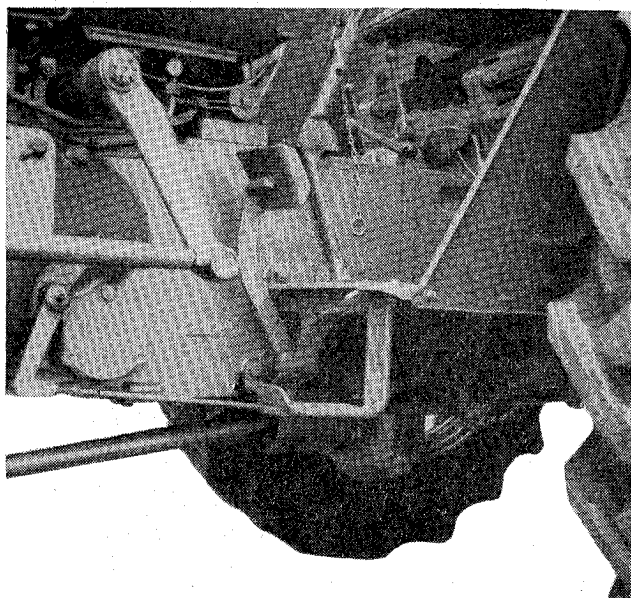

Fig. 53
The front axle drive is controlled from the driver's seat by means of an engaging lever (Fig. 53) placed on the left-hand side of the gearbox. When moving the lever backwards, the front wheel drive has been engaged, by a reverse movement it has been disengaged.
- drive box and cardan joint shaft (Fig. 53)